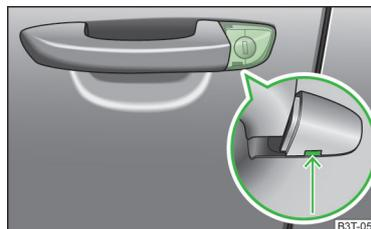

Fig. 192
- Insert the vehicle key into the slot on the underside of the cover in the region of the arrow » Fig. 192.